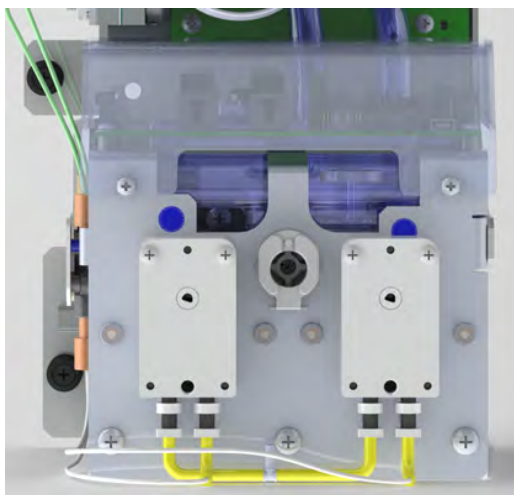

Figure 18: Viewing the Reservoir Water Level
7. View the reservoir water level and verify that the water level reaches JUST BELOW the top of the reservoir, as shown in Figure 18.